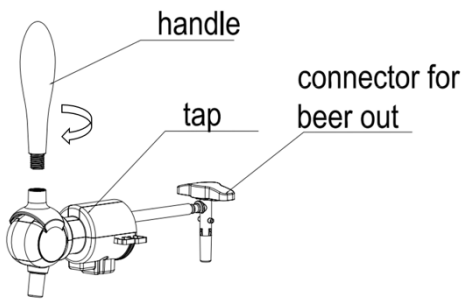

FIGURE 1
2. Install the tap handle connect the tap, make sure both ends fit together perfectly (As shown in figure1).